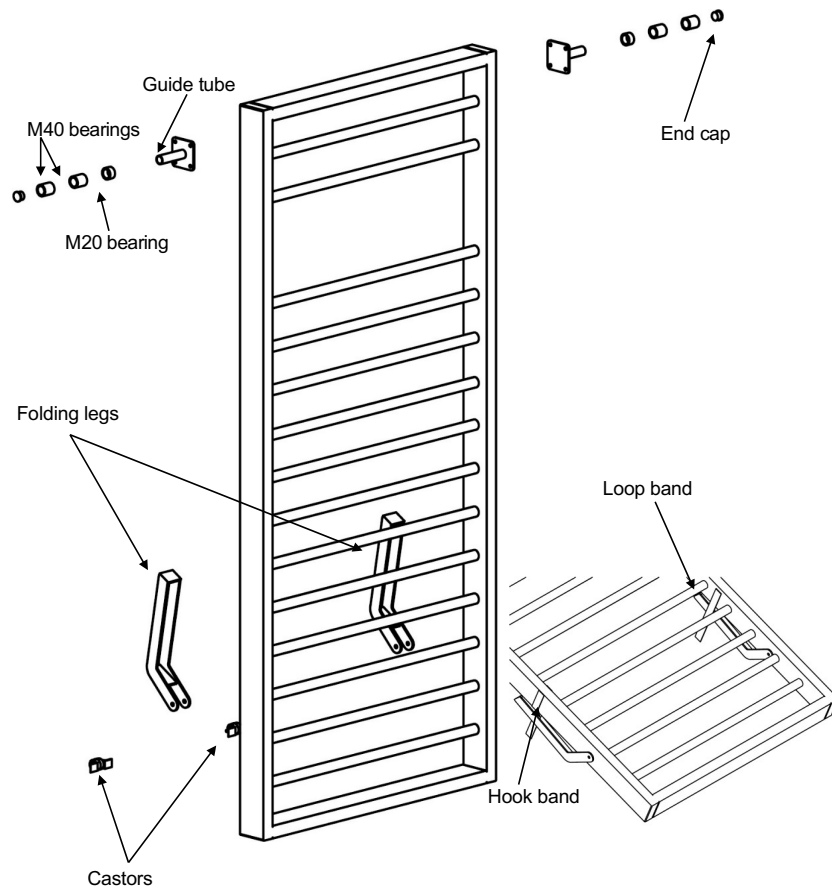

Figure 5: Assembling the tilting section
To secure the legs when folded, attach the hook band ⑧ to the outside of the climbing net section sides and the loop band ⑨ to the inside (see figure 5).
With the frame on the wall and the climbing net section prepared, the latter can now be attached. To do this, insert the handgrips ① into the frame's two holes at the top. Then place the bearings on the guide tube as shown in figure 5 and seal the tube with the end caps. The guide tubes can now be slotted between the frame's guide rails from the top.